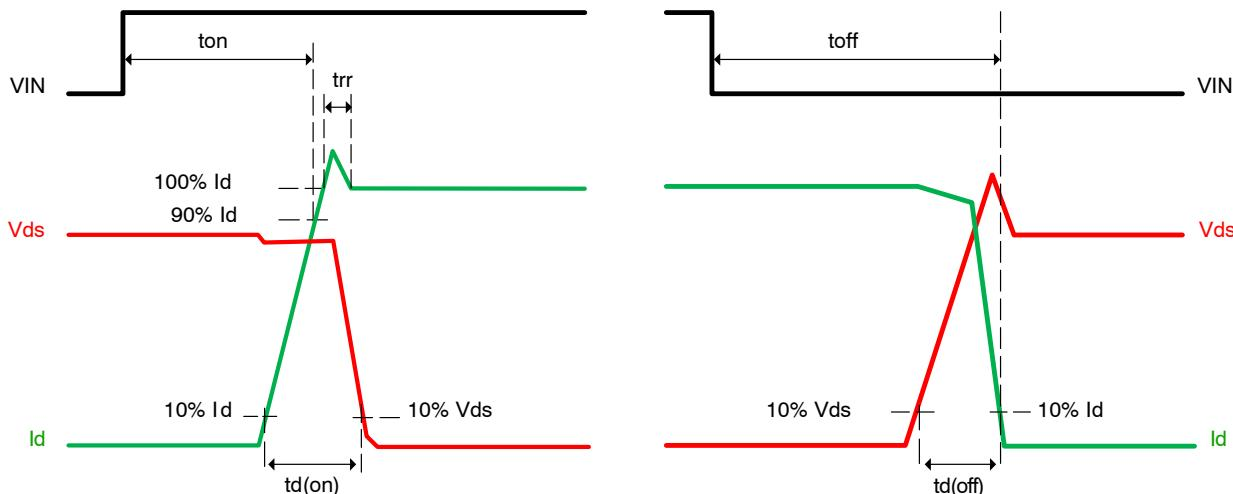

Figure 4. Switching Time Definitions
- ton and toff include the propagation delay of the internal drive IC. $t_{c(on)}$ and $t_{c(off)}$ are the switching times of MOSFET under the given gate-driving condition internally. For the detailed information, please see Figure 4.